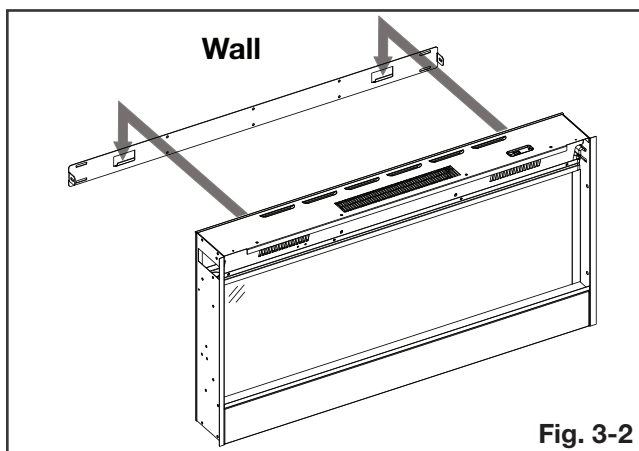

Fig. 3-2
- F. With the wall mounting bracket installed, have two people lift the appliance up and insert the two hooks on the bracket into the two slots on the back of the appliance (**Fig. 3-2**).